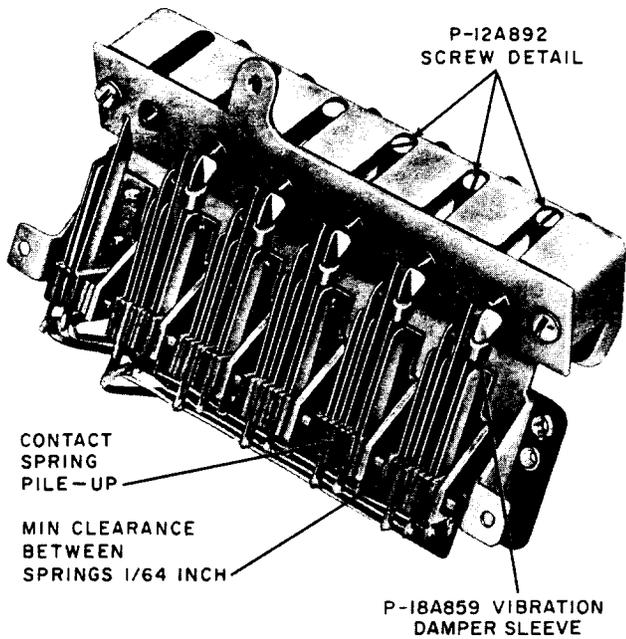

Fig. 4—589-Type Key, Bottom View
- (b) Replacing loose or missing damper studs with P-18A859 vibration damper sleeves (Fig. 4). Later 589-type keys do not require this vibration damper.
2.12 Contact follow and separation is obtained by using a 363 tool at a point adjacent to contact spring pile-up (Fig. 4). When adjusting springs:
- (a) There should be a minimum spring clearance of 1/64-inch between contact springs and those parts of the key which do not make contact with springs (Fig. 4).